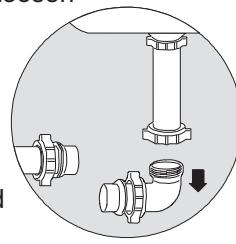
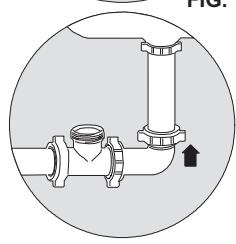

FIG. 8
FIG. 9
2. Slip S.J. nut and beveled waster over both ends of cut tube, then insert the 3-way repair tee in the following manner: Loosen the S.J. nut on the horizontal waste ell where it joins the vertical tailpiece. (See Fig. 8)
Remove the short "ell" piece by pulling down the tailpiece. (Fig. 8), then put cut ends of ell into tee and tilt vertical end back up over tailpiece and re-secure S.J. nut. Rotate tee so that the side outlet is facing straight up, then firmly tighten both S.J. nuts to tee. (See Fig. 9)